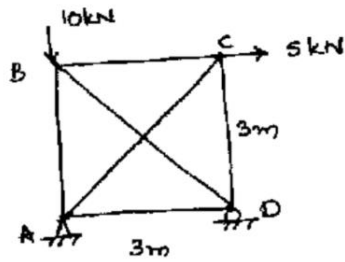

Figure 2
13. Analyse the truss shown in Figure 2 using stiffness matrix method. Assume AE as constant.